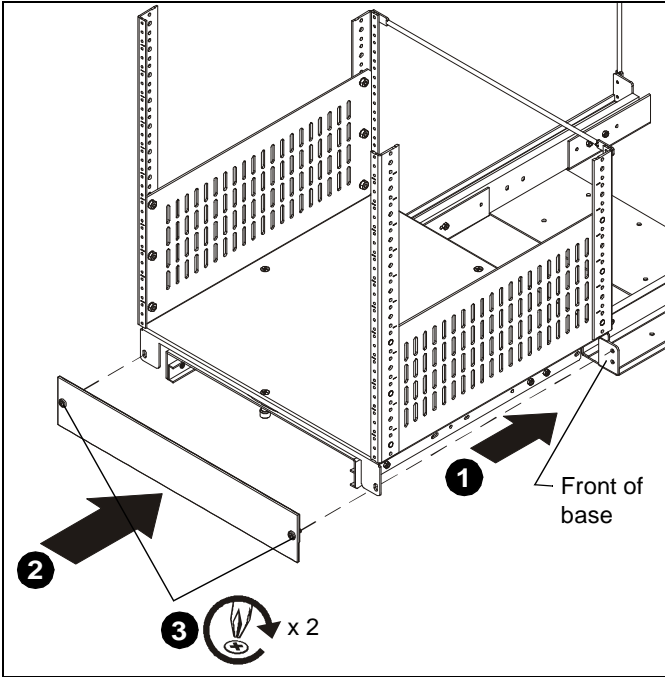

Figure 5
1. Close the POTR/ROTR. (See Figure 5)
2. Replace cover plate. (See Figure 5)
3. Attach cover plate to POTR/ROTR with two fasteners removed in earlier step. (See Figure 5)